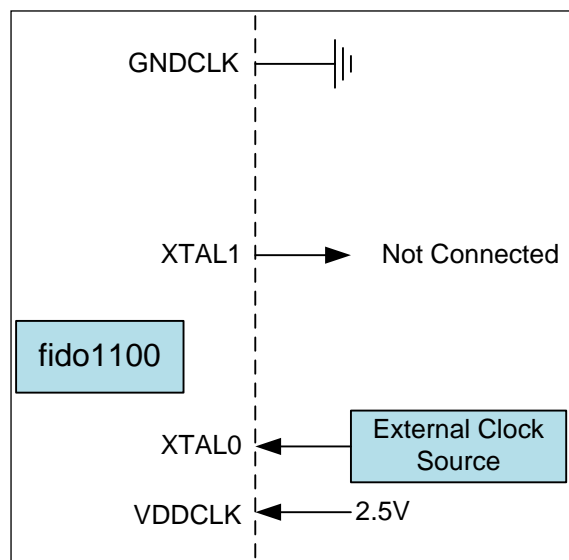

Figure 12. Driven Clock Source
- System Configuration (third overtone)—Crystal across XTAL0/XTAL1 (see Figure 12), 36 pF load caps to ground, 0.1-μF cap, and 0.33-μH inductor in series from XTAL1 to ground.